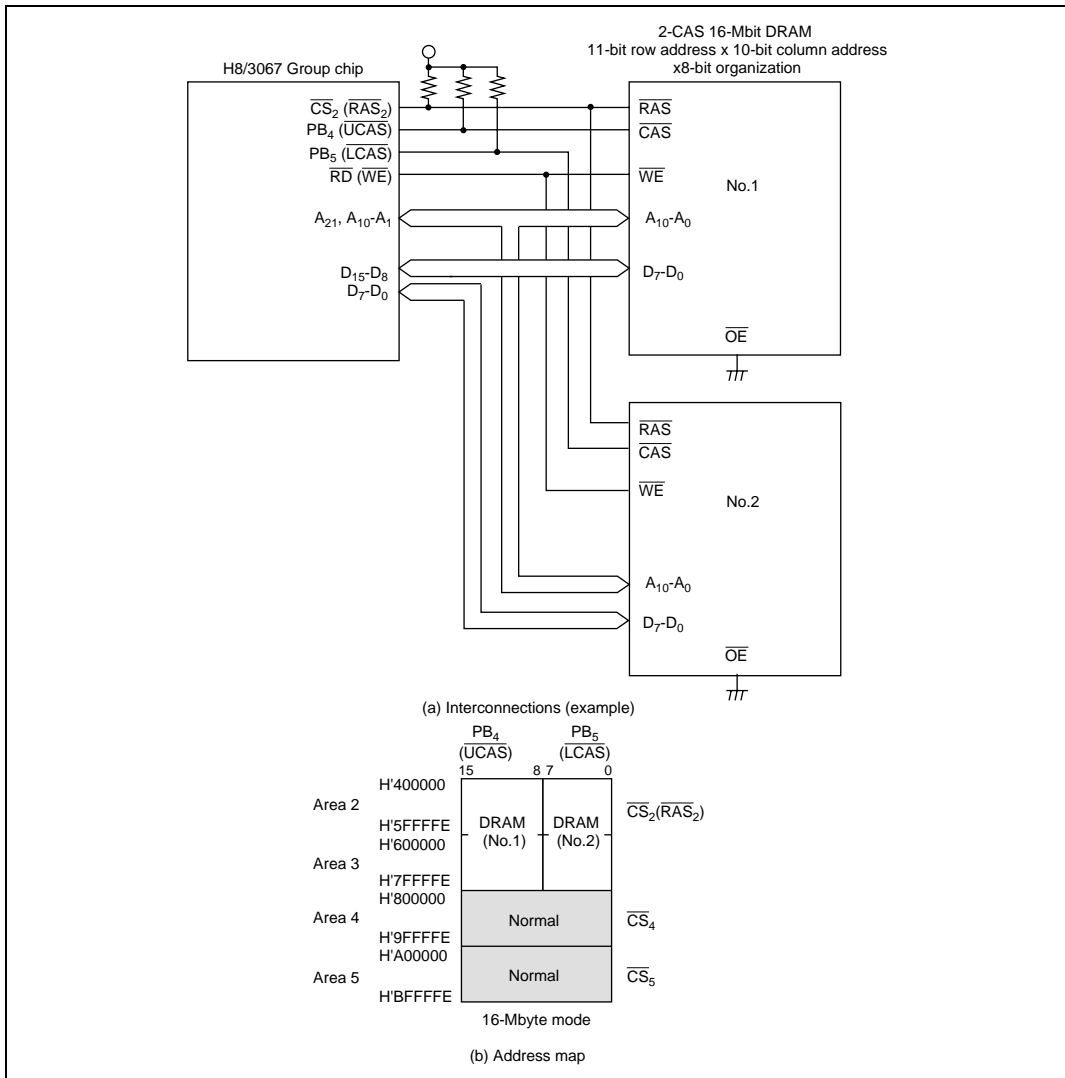

Figure 6.32 Interconnections and Address Map for 16-Mbit DRAMs with $\times 8$ -Bit Organization
- Figure 6.32 shows typical interconnections when using two 16-Mbit DRAMs using a \times 8-bit organization, and the corresponding address map. The DRAMs used in this example are of the 11-bit row address \times 10-bit column address type. The \overline{CS}_2 pin is used as the common \overline{RAS} output pin for areas 2 and 3. When the DRAM address space spans a number of contiguous